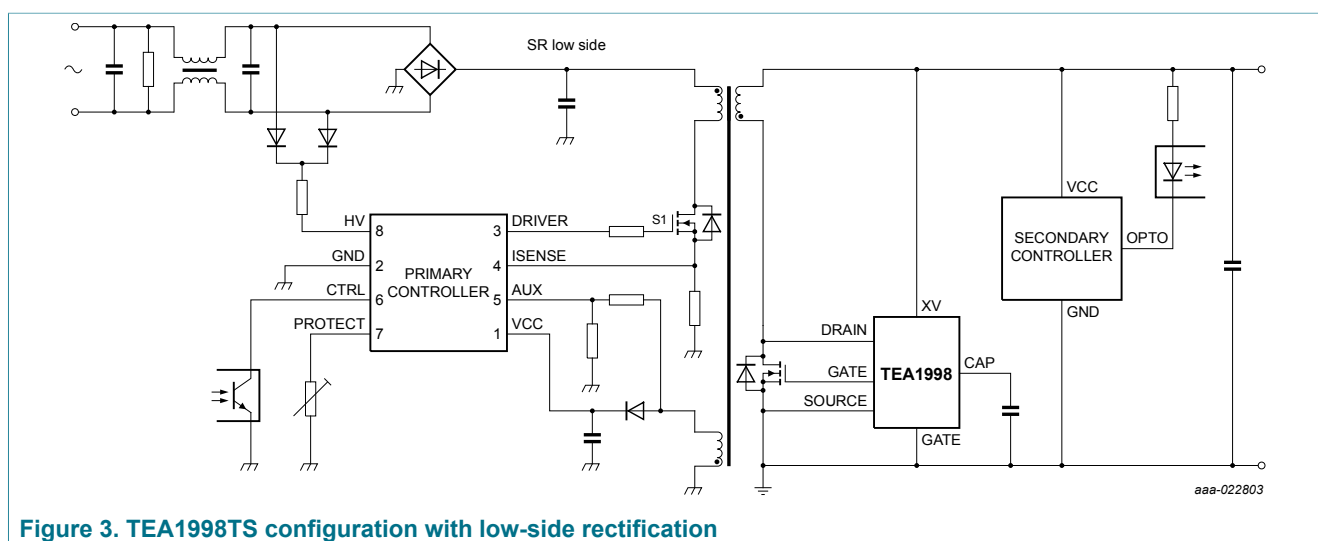
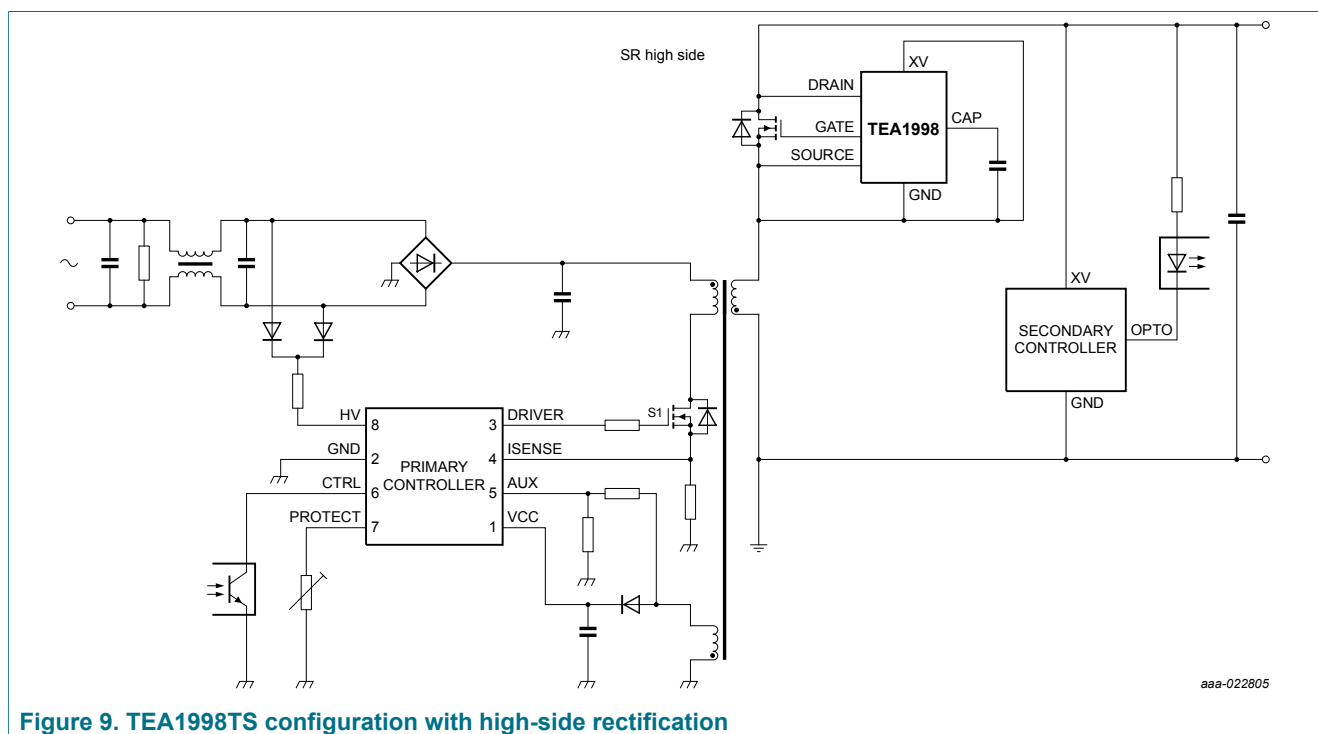

Figure 3. TEA1998TS configuration with low-side rectification
Figure 9. TEA1998TS configuration with high-side rectification
The TEA1998TS is a controller IC for Synchronous Rectification (SR) in flyback applications. It can drive the external synchronous rectifier MOSFET for the rectification of the voltage on the secondary winding of the transformer. Figure 3 shows a typical configuration.
A flyback switched mode power supply with the TEA1998TS consists of a primary side controller with a primary switch, a transformer, and an output stage. To obtain low conduction loss rectification, an SR MOSFET is used in the output stage. The SR MOSFET can be placed low-side (see Figure 3) or can be placed high-side (see Figure 9). In the high-side application, the TEA1998TS is self-supplying. The capacitor on the CAP pin supplies the TEA1998TS. When the drain voltage is positive, it is charged via the DRAIN pin.